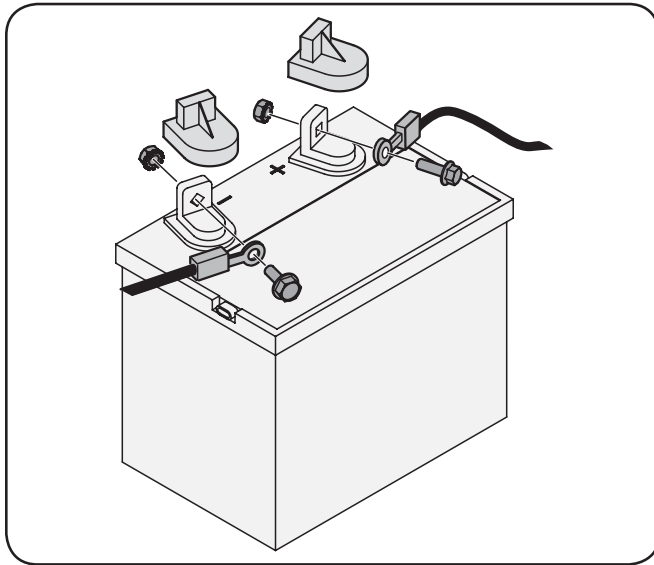

Figure 3-3
1. Remove the plastic cover, if present, from the positive battery terminal and attach the red cable to the positive battery terminal (+) with the bolt and hex nut. See Figure 3-3.
2. Remove the plastic cover, if present, from the negative battery terminal and attach the black cable to the negative battery terminal (-) with the bolt and hex nut. See Figure 3-3.